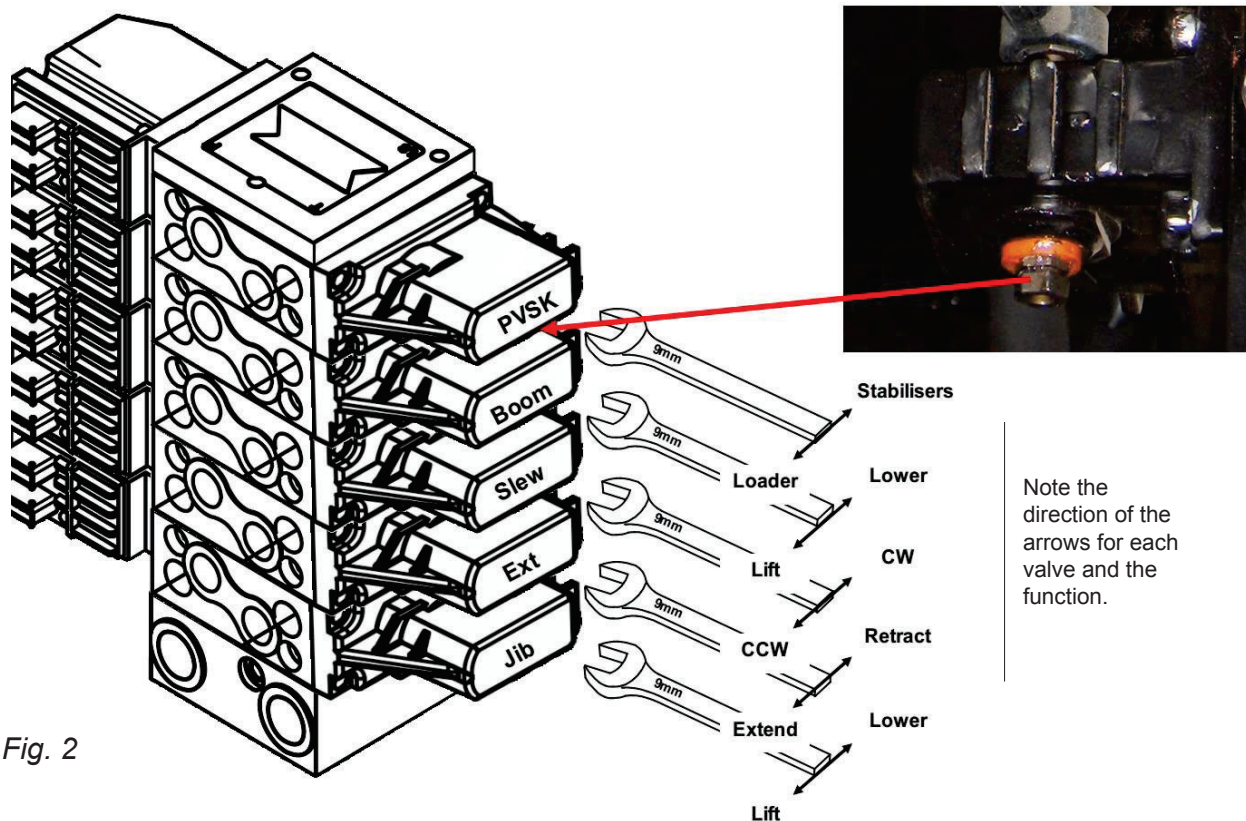
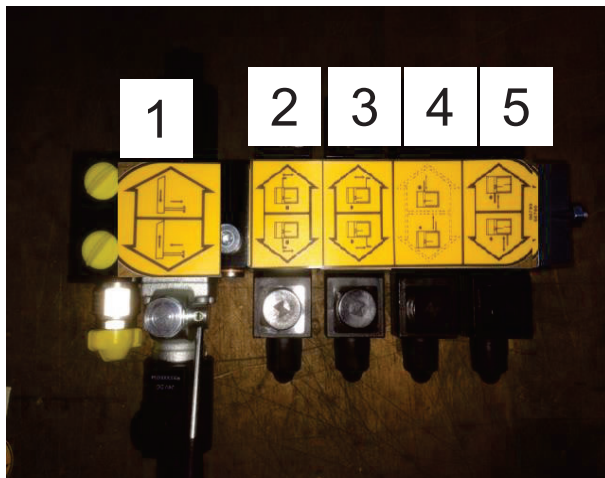

Fig. 2
Fig. 5
- Place one of the keys on the upper valve (PVSK), while using the second key, or a 9mm wrench, to adjust each valve individually. (See Fig. 2 & 3)
- Leave key, or 9mm wrench in the locked position and move the second key, or 9mm wrench to the function you want to operate. (See Fig. 2)
- First you push a function button (*Fig. 6*) and hold it while moving the lever (*Fig. 5*) until the desired sections are completely in. You must always move the lever (*Fig. 5*) in combination with pushing a button simultaneously (*Fig. 6*).
- **Note:** The key, or 9mm wrench used in Fig. 2 to stow the crane in an emergency, needs to be used in conjunction (all simultaneously) with the above valve bank steps used in Fig. 5 & 6. To maneuver both of these steps simultaneously will be a two-person job.